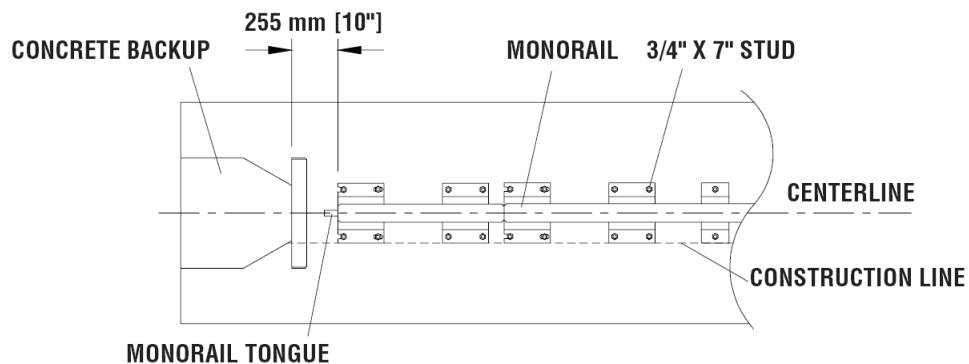

Figure 19
A) Monorail Assembly for Concrete Backup (Figure 19)